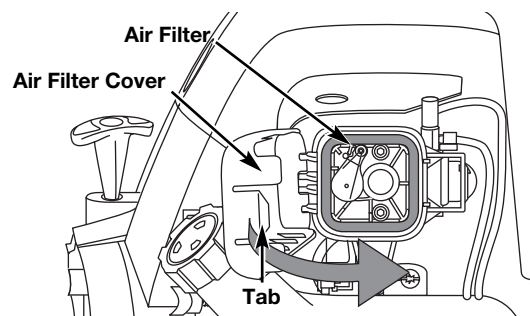

Fig. 33
7. Reinstall the air filter cover. Position the hooks on the left side of the air filter cover into the slots at the left side of the back plate (Fig. 33).
8. Swing the cover to the right until the tab on the air filter cover snaps into place in the slot on the back plate (Fig. 33).